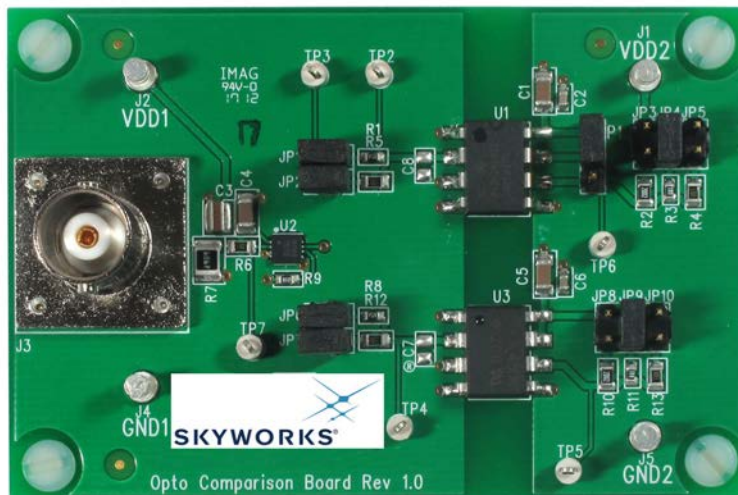
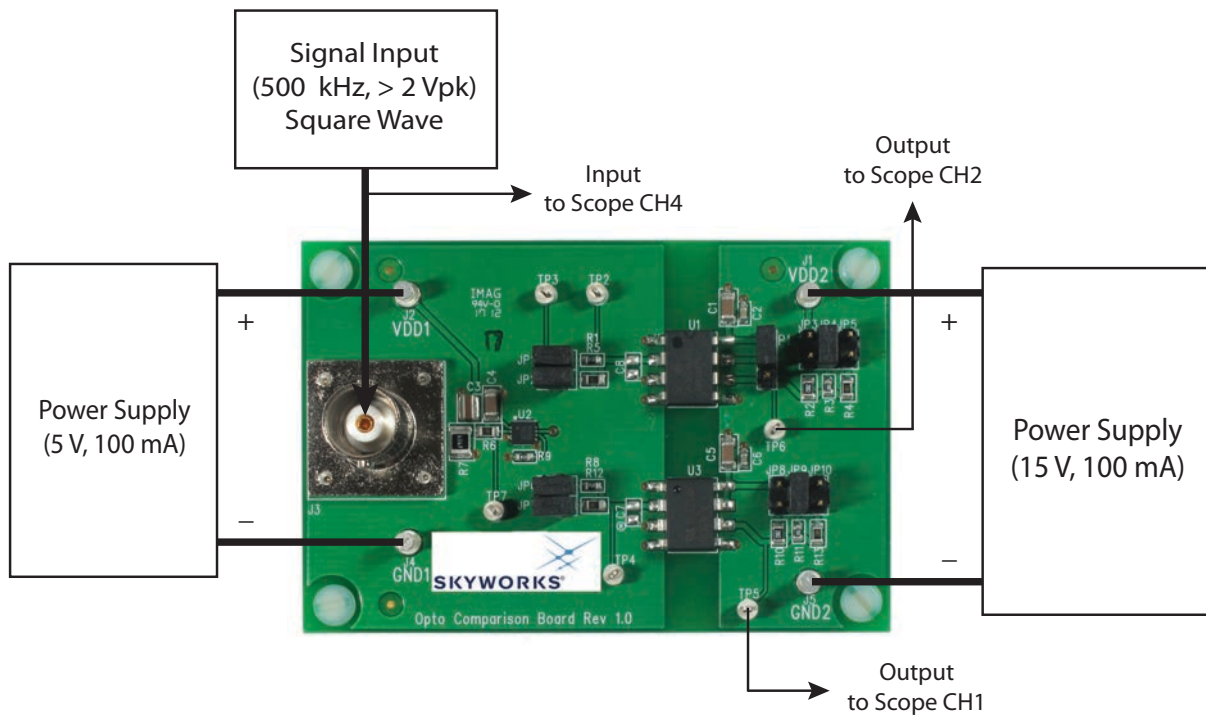
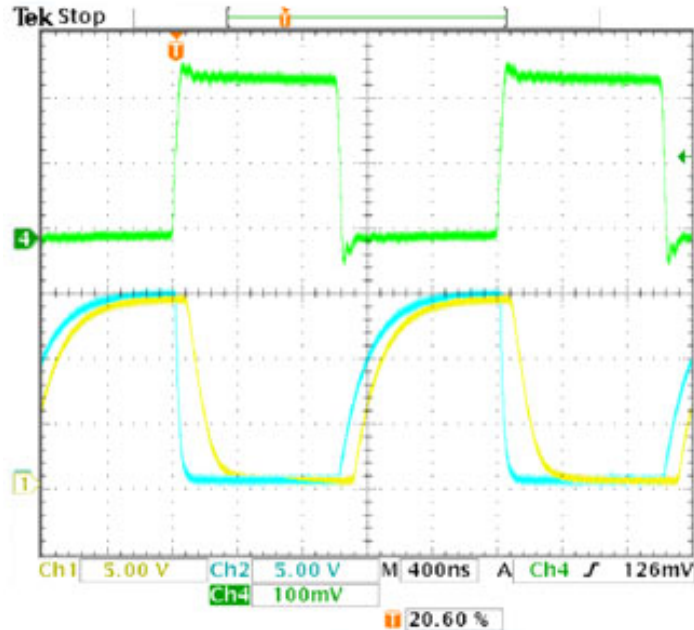
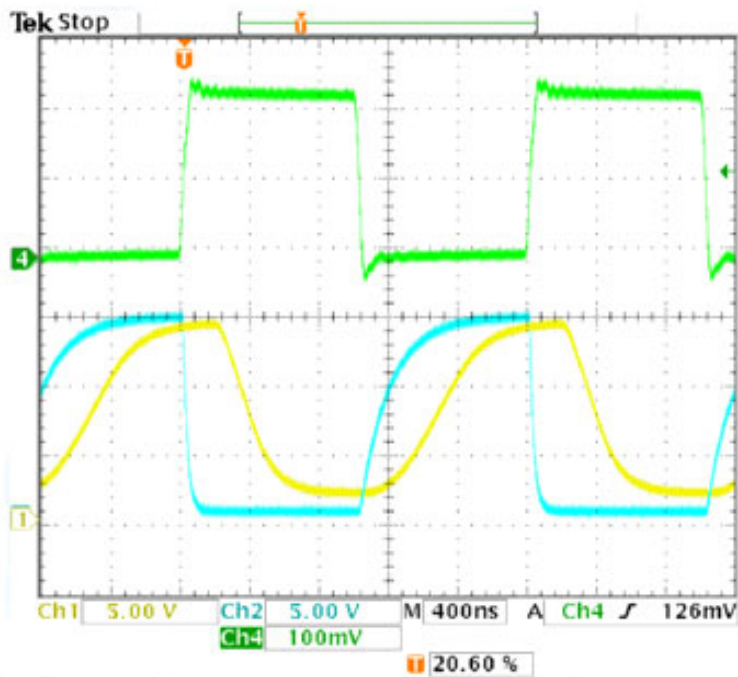

Figure 1. Si87xx Isolator vs. Opto Comparison Evaluation Board Overview
Figure 2. Summary Diagram and Demo Setup
Figure 3. Optocoupler Comparison EVB at 25 °C
Figure 4. Optocoupler Comparison EVB at 80 °C
- Si87xx based evaluation board as shown in Figure 1.
Figure 2 illustrates the connection diagram to demonstrate the Si87xxOptoComp-EVB. This demo simultaneously transmits a 500 kHz (5 V peak, 50 percent duty cycle) square wave through the Si87xx isolator and the optocoupler to their outputs (Vo). In this example, VDD1 is powered from 5V and VDD2 is powered by a 15 V supply. The external digital input signal is buffered and fed into the inputs of both devices while the output signals are observed on an oscilloscope. Figure 3 shows the outputs of both devices at 25 °C, while Figure 4 shows the outputs at 80 °C. Note the faster propagation delay rise times provided by the Si87xx device. The Channel 2 waveform is the output of the Si8710A, and the Channel 1 waveform is the output of the HCPL-4506. Note that if a user wants to evaluate an Si87xx LED Emulator Input isolator or optocoupler other than the ones pre-populated, this can be accomplished by removing the installed device and replacing it with the desired footprint-compatible isolator device.
Figure 4 uses the same setup as Figure 3, but, this time, operating at an elevated temperature. Again, the Channel 2 waveform is the output of the Si8710A, and the Channel 1 waveform is the output of the HCPL-4506. As operating temperature increases, the HCPL 4506 output falling edge is substantially slower, and the propagation delay worsens compared to Figure 3. Note that the Si8710A output performance is essentially the same, as shown in Figure 3.
The steps below detail how to run the demo. Before starting, ensure that JP1, JP2, JP4, JP6, JP7, JP9, and P1 (position 1–2) are installed as shown in Figure 1 on page 1. See Figures 2 and 6 if necessary.
5. Adjust the level indicators for all channels to properly view each channel as shown in Figure 3 and Figure 4.
A 500 kHz square wave should be displayed on CH4 of the scope for the input, and an inverted 5 V version of this square wave should display the outputs on CH1 and CH2, as shown in Figure 3. This concludes the basic demo.